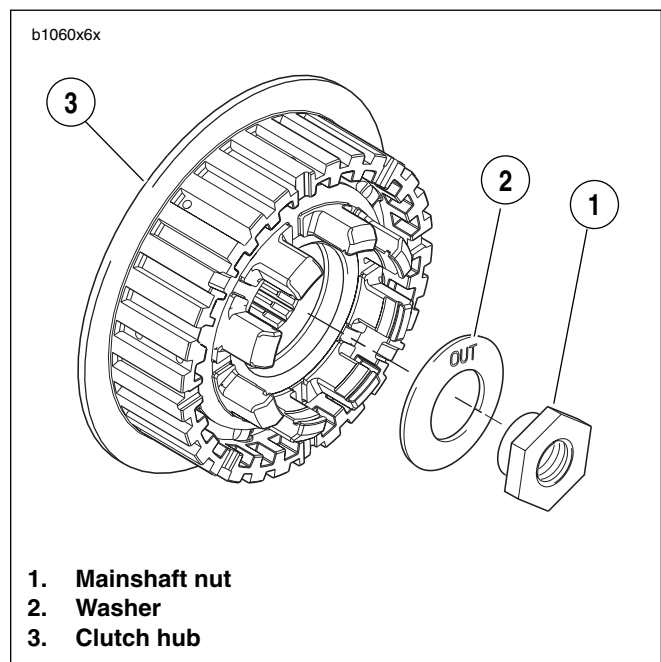

Figure 6-35. Mainshaft Nut and Washer
See Figure 6-35. Washer must be installed with the word "out" facing the mainshaft nut or transmission may be damaged.
6. See Figure 6-35. Install mainshaft washer (2) and nut (1).
- b. Place washer (2) on mainshaft with the word “out” facing away from clutch hub.
- c. Install nut (left-hand threads) (1). Tighten to 70-80 ft-lbs (94.9-108.5 Nm).